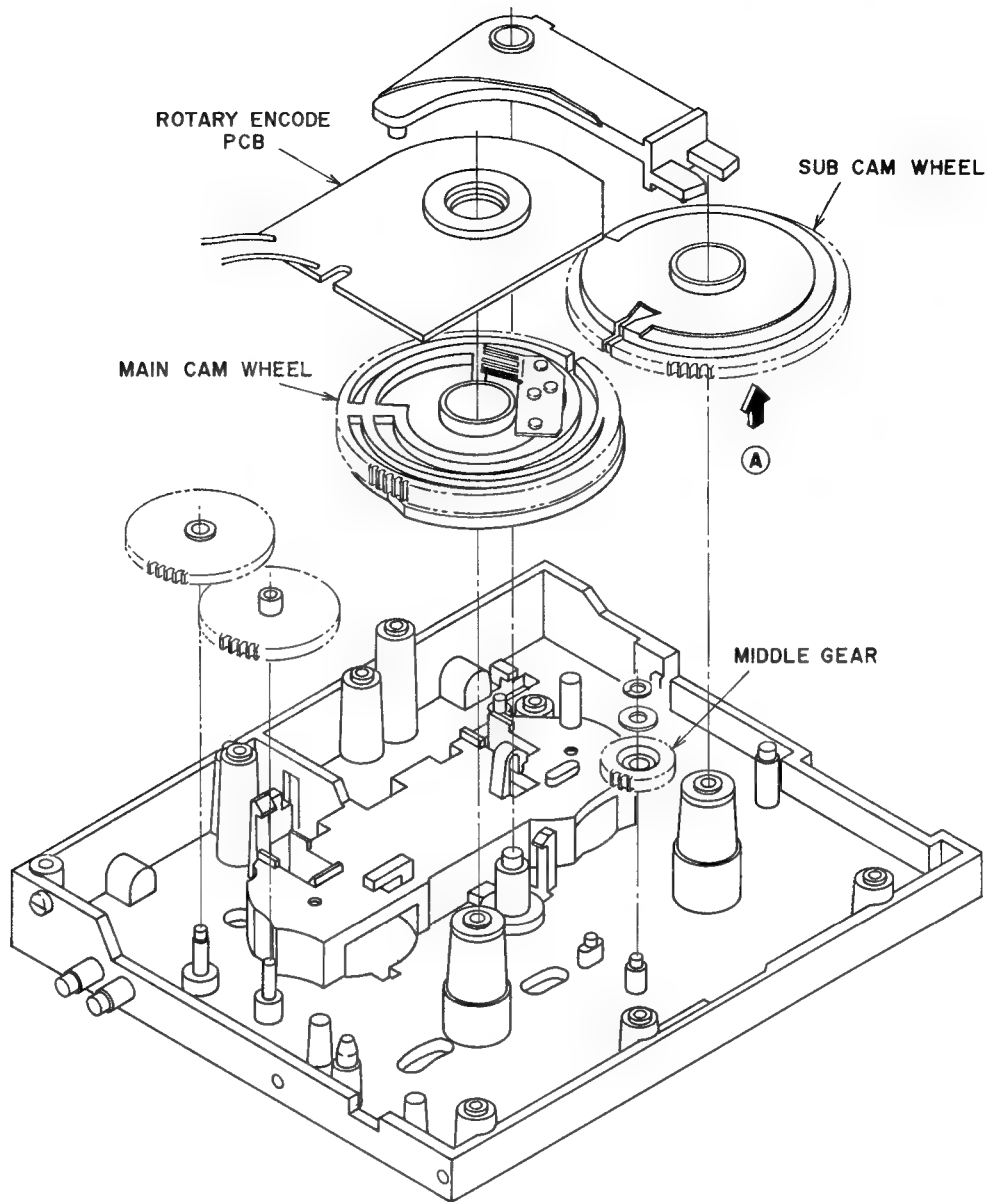
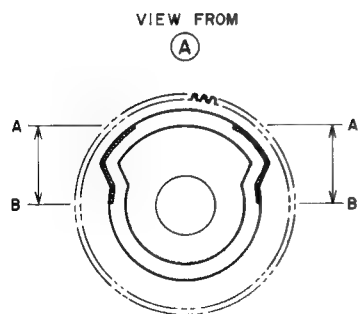
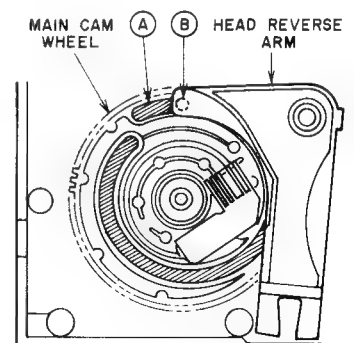

Fig. 6-1
Fig. 6-2
Fig. 6-4
- 1) Lock at SUB CAM WHEEL from direction (A) (Fig. 6-1) and apply grease to areas A to B (the side of the groove shaded with oblique lines) as in Fig. 6-2.
- 4) Insert the head Reverse arm pin (B) (see Fig. 6-1) into groove A in MAIN CAM WHEEL as in Fig. 6-4.